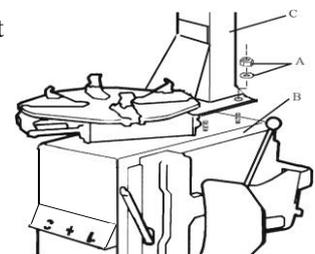

Fig 4
2. Unscrew the nut A on the body B as shown in Fig 4. Lift the column C; mount it on the body using the nut A through the bolt located on the body B. If the column becomes loose, screw them immediately. Otherwise damage to the tyre may happen.